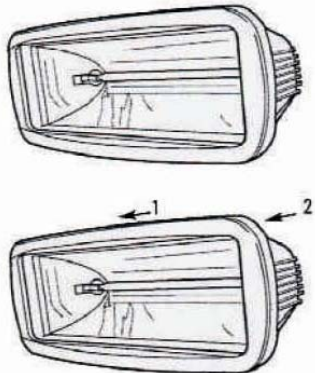

Fig. 1
2. Use a heat resistant supply wiring with ground. The live and neutral wires must be covered with the protective silicon casings provided before connecting them to the terminal block. – see figure 1
2. Securely fasten the heater on the bracket using the nut and bolt supplied - see figure 1 & 2
2. Unscrew the back two screws at top of the casing – see figure 1
3. Open hinges front cover – see figure 1